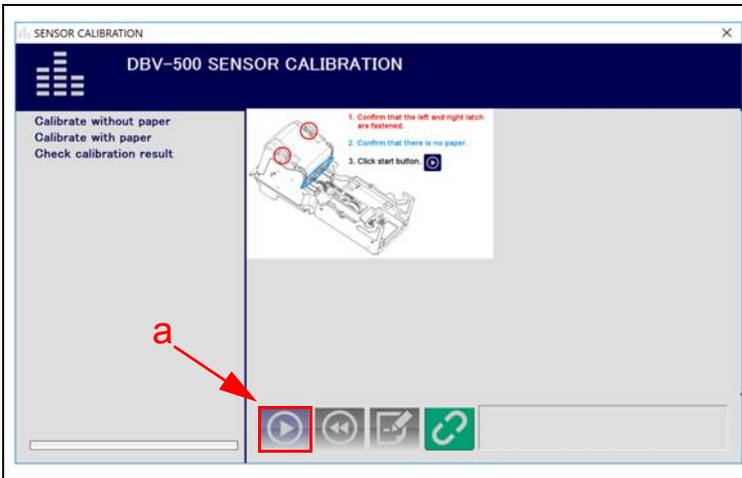

Figure 9 DBV-500 Sensor Calibration Function
The Sensor Calibration screen appears momentarily (refer to Figure 9).
9. Follow the onscreen prompts and click the Start button (Figure 9 a) to begin the DBV-500 Validation Sensor Calibration.